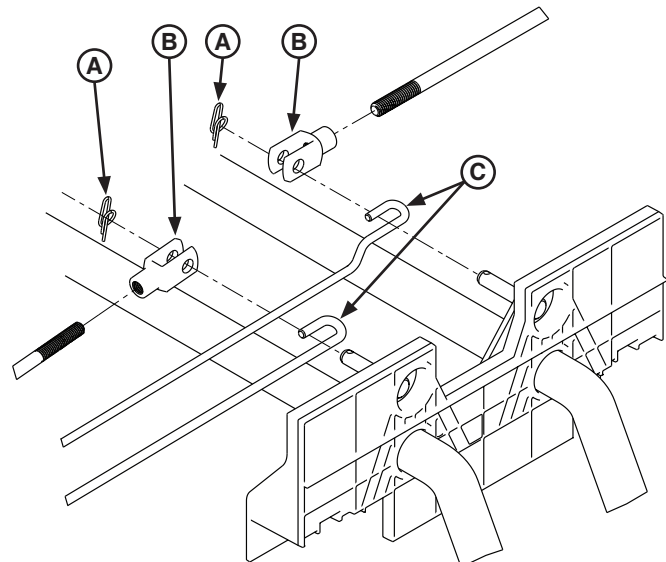

Figure 5
2. Using needle nose pliers, remove the rue ring cotters (A) that hold the clevis joints (B) to the studs on the side control release pedal weldments as shown in Figure 5 on page 19.